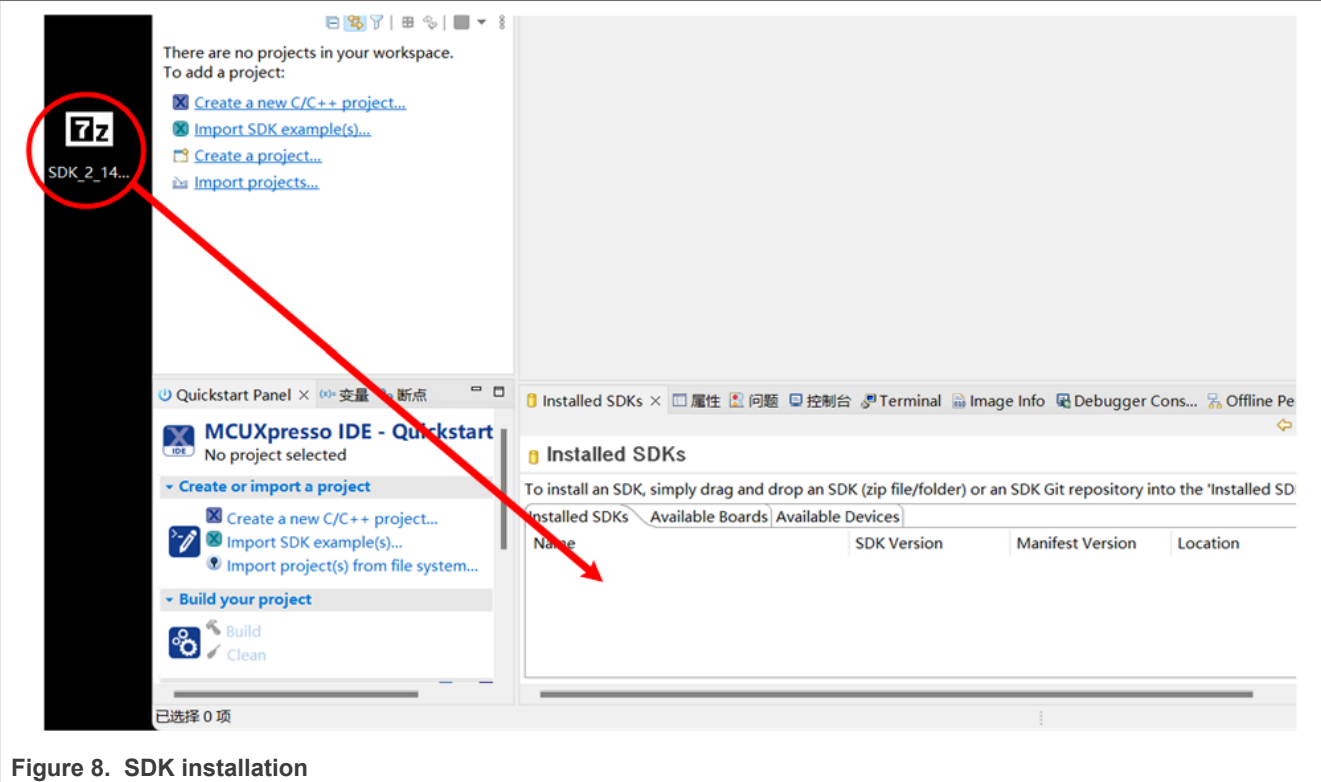

Figure 8. SDK installation
6. Open MCUXpresso IDE and install the SDK by dragging and dropping the file into the SDK installation window of the MCUXpresso IDE as shown in Figure 8